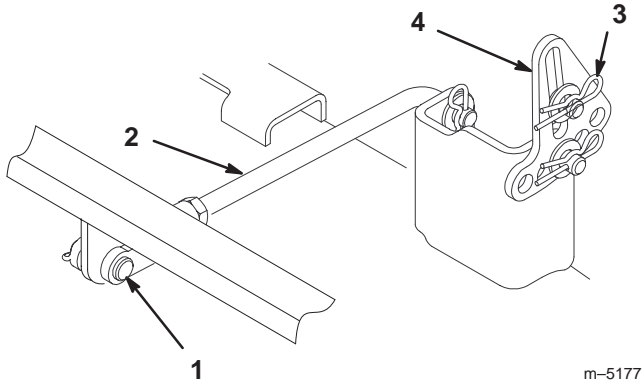

Figure 42
4. Remove the hairpin cotter and clevis pin from the rear trunion rod (Fig. 42) on each side of the mower.
5. Remove the hairpin cotter and washer at the mower leveling brackets (Fig. 42) on each side of the mower. Note which hole the leveling bracket is mounted in for future installation. Slide the brackets off of the mounting pin.
4. Attach the rear trunion rod to the tractor with the clevis pin and hairpin cotter (Fig. 42) on each side of the mower.
5. Slide the leveling brackets onto the mounting pins and secure them with the washers and hairpin cotters (Fig. 42).